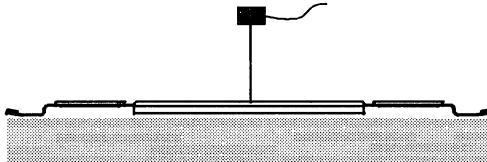

Figure 34-7. Technique for Measuring Case Temperature (T_c)
- The thermocouple should be attached at a 90° angle as shown in Figure 34-7.